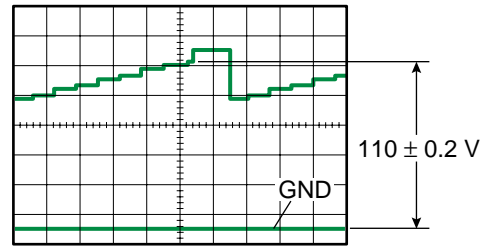

Fig. 4-5
- Adjust the Increment Button (+) or Decrement Button (-) so that the G Pedestal becomes to 110 ± 2 V as shown in Fig. 4-5.